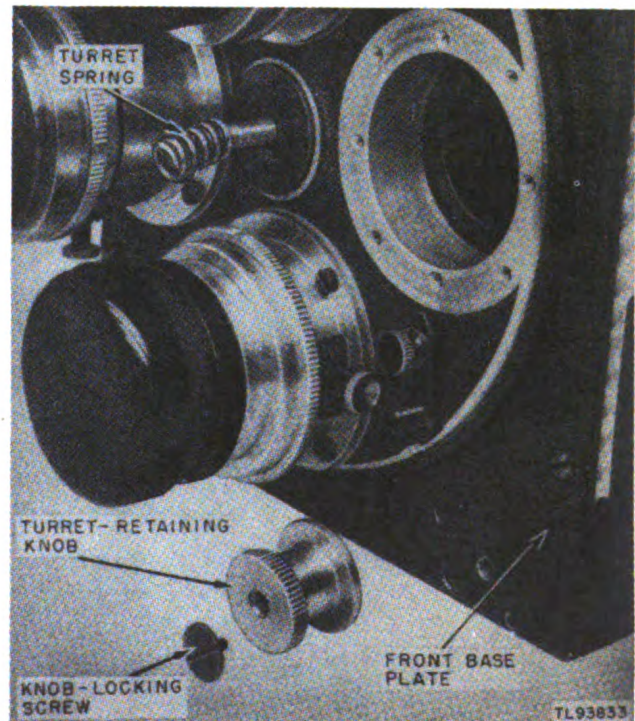

Figure 126. Turret spring partially removed.
65. Replacing Turret Spring (fig. 126)